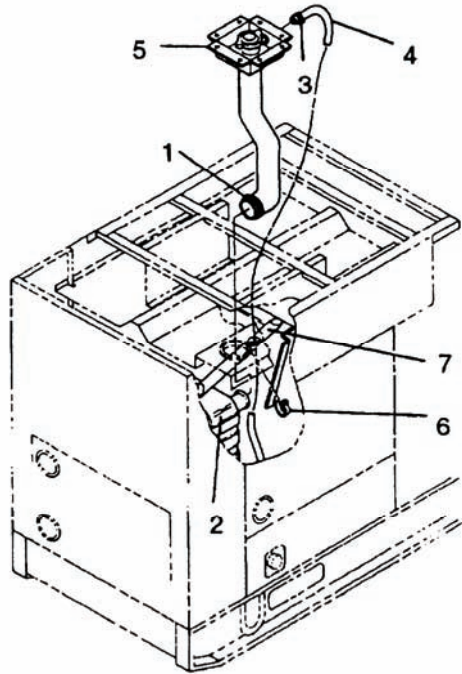

Figure 3-5. Filler Hose and Panel Assembly.
- g. Loosen clamp (1, Figure 3-5) at radiator (2) and disconnect filler hose and panel assembly (5) from radiator.
- h. Loosen clamp (3) and disconnect overflow hose (4) from filler hose and panel assembly (5).
- i. Remove filler hose and panel assembly (5) from generator set.
- j. Cut wire ties (6) supporting overflow hose (4) to upper radiator supports (7).